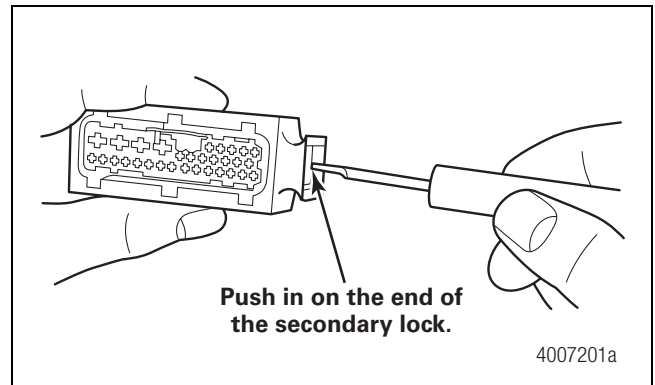

Figure 5
- If necessary, use the screwdriver in the kit to push the secondary locks on each side in until completely seated. Verify each lock is installed correctly and not covering the seal. Figure 5.